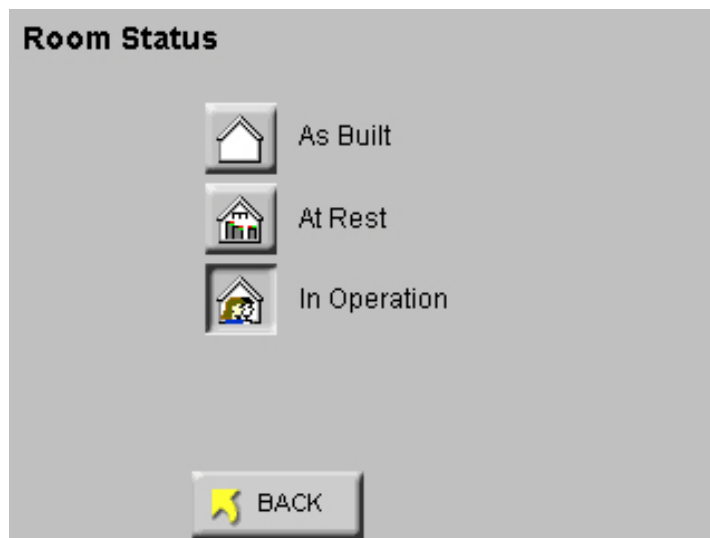

Figure 4-71 Reports Room Status Scree
- Press the STATUS button to display screen shown in Figure 4-71.